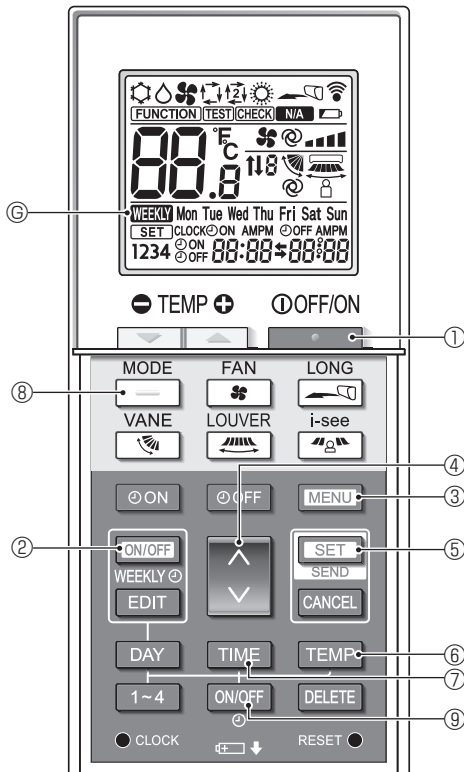
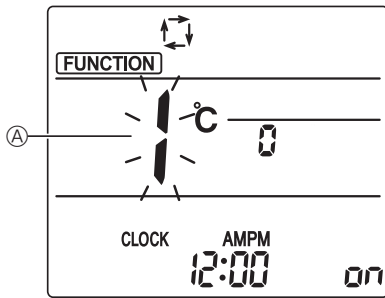
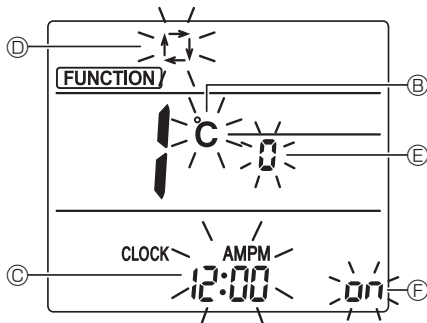

Fig. 3-1
Fig. 3-2
Fig. 3-3
(Fig. 3-1, Fig. 3-2)
(Fig. 3-1, Fig. 3-3 Ⓑ)
(Fig. 3-1, Fig.3-3 Ⓒ)
(Fig. 3-1, Fig.3-3 Ⓓ)
- Press the **MODE** button ⑧.
- Pressing the **MODE** button ⑧ changes the Auto mode (/). (The factory setting is "Single set point".)
5. Changing the pair No. (Fig. 3-1, Fig.3-3 ㊟)
(Fig. 3-1, Fig. 3-3 ㊟)